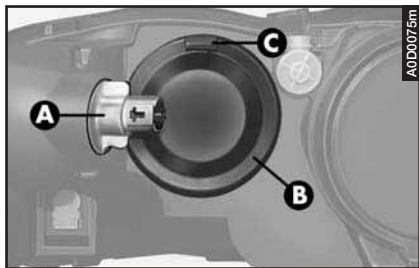

fig. 45
– Turn counter-clockwise and remove the direction indicator bulb holder (**A-fig. 45**) without disconnecting the connector to widen the working space.